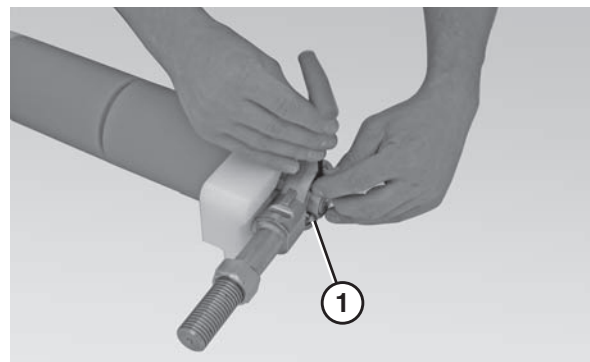

Figure 67
4. Use a 4 mm hex wrench (Figure 67, item 1) to loosen the bearing shaft assembly fasteners (Figure 67, item 2).